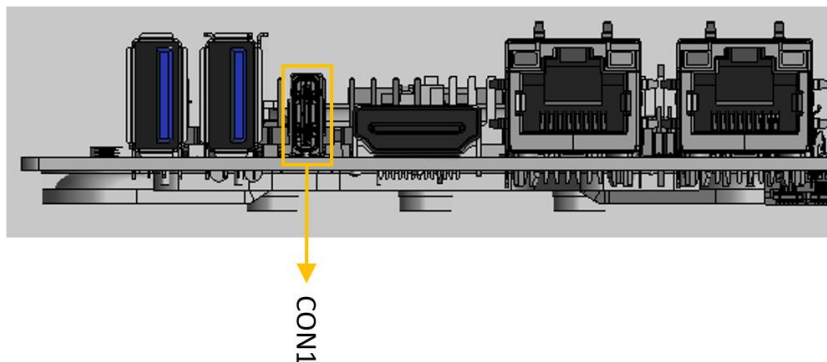

Figure 3-33: USB 3.2 Gen 2 Type-C Port Location
- CN Location:** See Figure 3-33